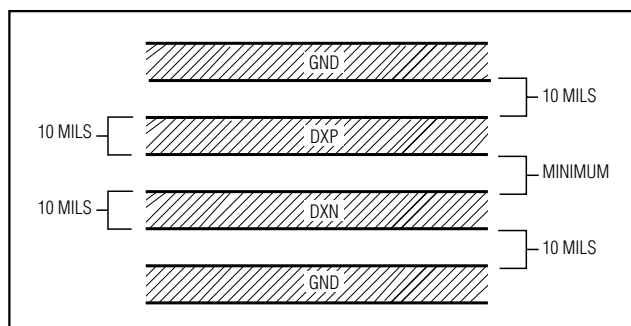

Figure 6. Recommended DXP/DXN PC Traces
- 3) Route the DXP and DXN traces in parallel and in close proximity to each other, away from any higher voltage traces, such as 12VDC. Leakage currents from PC board contamination must be dealt with carefully since a 20M Ω leakage path from DXP to ground causes about 1°C error. If high-voltage traces are unavoidable, connect guard traces to GND on either side of the DXP-DXN traces (Figure 6).
- 4) The 10-mil widths and spacing recommended in Figure 6 are not absolutely necessary, as they offer only a minor improvement in leakage and noise over narrow traces. Use wider traces when practical.